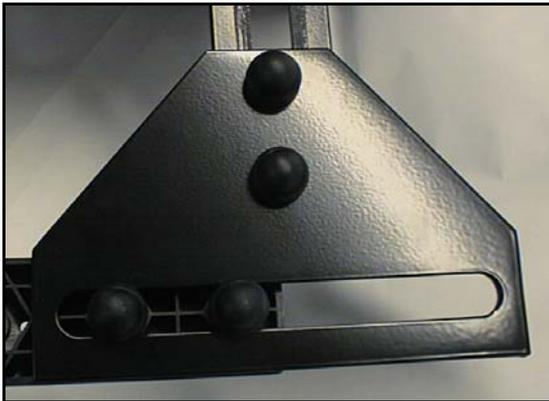

Figure 2-4
2. Alternatively, a side mounting bracket can be fitted on top of the head fixing bracket, thus providing a slot and two holes for attaching the detector to, as shown in **Figure 2-4**, below.